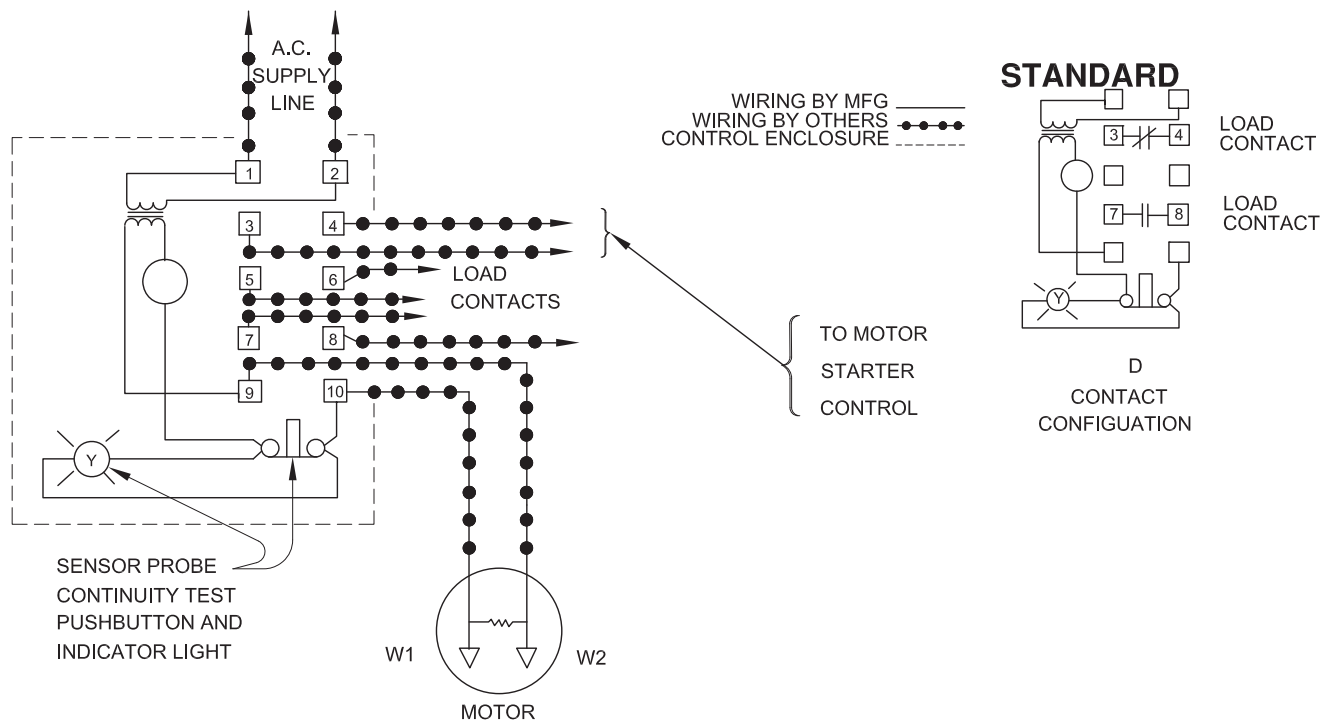

FIGURE 5
To expose outer shaft seal (4) for examination, remove Impeller and Volute per Section E-1.1. Set motor assembly (1) in the inverted position to prevent loss of oil. Remove snap ring from motor shaft, then retaining ring (5), spring (4C) and rotating member (4B) from shaft, See Figure 5. Examine all seal parts and especially contact faces. Inspect seal for signs of wear such as uneven wear pattern on stationary members, chips and scratches on either seal face. **DO NOT** interchange seal components, replace the entire shaft seal (4). If replacing seal, remove stationary (4A) from mounting plate by prying out with flat screw driver.